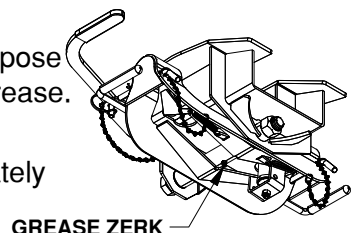

Figure J1: Underside
- Grease the saddle through the grease zerk approximately every six months with multi-purpose grease. This allows the coupler to pivot freely, see Figure J1.